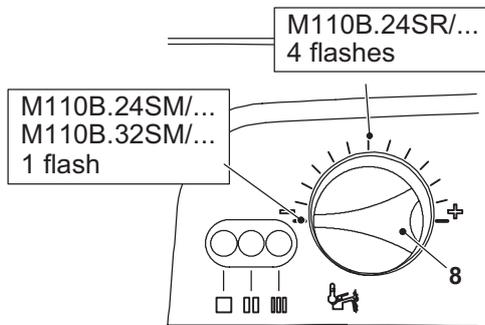

Figure 9.16
At this step it is possible to visualize the current setting by keeping the reset button 9 pressed for more than 5 seconds. The lamps 11 will flash a number of times corresponding to the setting (Figure 9.16).
- To change the setting turn the knob 8 on a position corresponding to the boiler models (Figure 9.16). By turning the knob 8, the lock-out signal lamp 10 blinks quickly (2 per seconds) indicating that the setting has changed and must be memorised.
a number of times corresponding to the setting as in Figure 9.16 (once for the combination and four times for system boilers). At this point only the right green light flashes.
- To change the setting turn the knob 8 on a position corresponding to the boiler model (Figure 9.16).